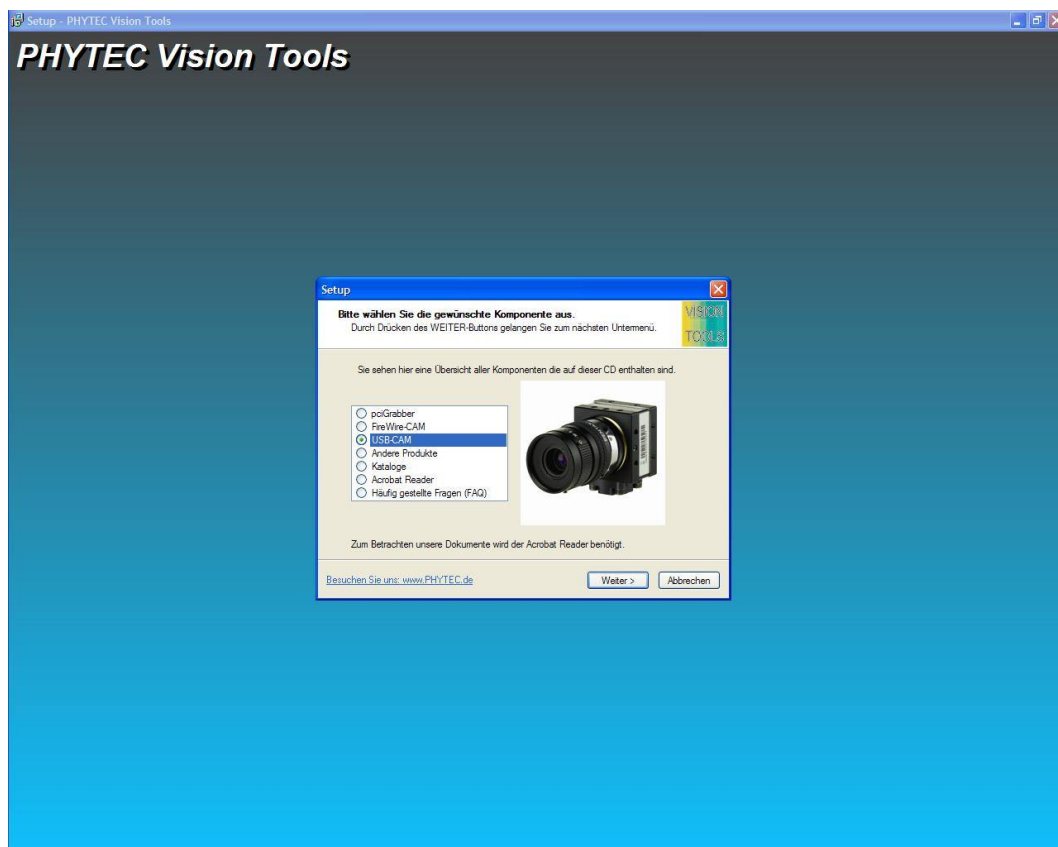

Figure 8: Title Menu of the „Vision Tools“ CD
- The CD should start automatically, bringing up the title menu shown in *Figure 8*.